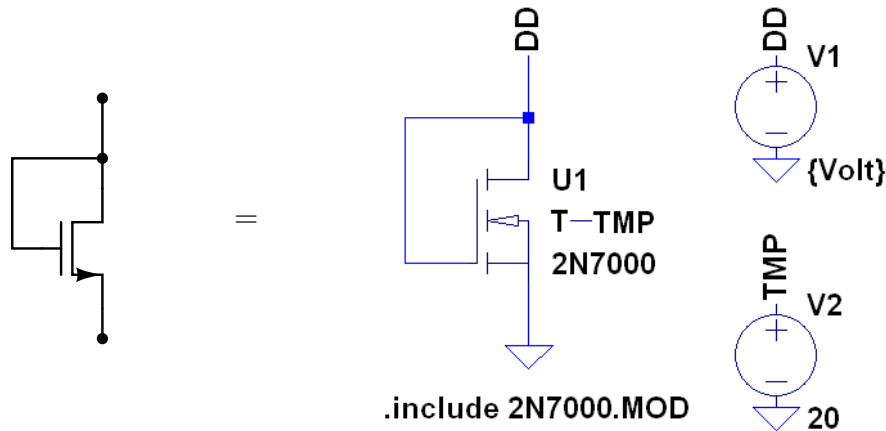

Figure 1.24: MOSFET in diode configuration (Problem 2).
2. An enhancement n-channel MOSFET can be connected in a diode configuration, see Figure 1.24. Obtain I-V curve of such a “diode” for 2N7000 n-channel enhancement MOSFET scanning the voltage from  $-0.9$  to  $12\text{V}$  and print the result. (Hint: use `.op` and `.step` directives). Find the incremental resistance from I-V curve at  $5\text{V}$  drain-source voltage. What is the dissipated power at that point? Use 2N7000 SPICE model from the library files available from the course web-site. This model requires a 4-input symbol, which can be found along with the model file in `SPICE\external_components\2N7000` directory. Make sure that `SpiceModel` attribute of the component is set to 2N7000 and that the appropriate `.include` statement is present. The 4th input is used to specify temperature for SPICE model of this MOSFET. The temperature input needs a dummy voltage source whose DC value in volts is interpreted as temperature in  $^{\circ}\text{C}$ . Set the temperature to be  $20^{\circ}\text{C}$ . How does the incremental resistance at  $5\text{V}$  change when the temperature is  $80^{\circ}\text{C}$ ?